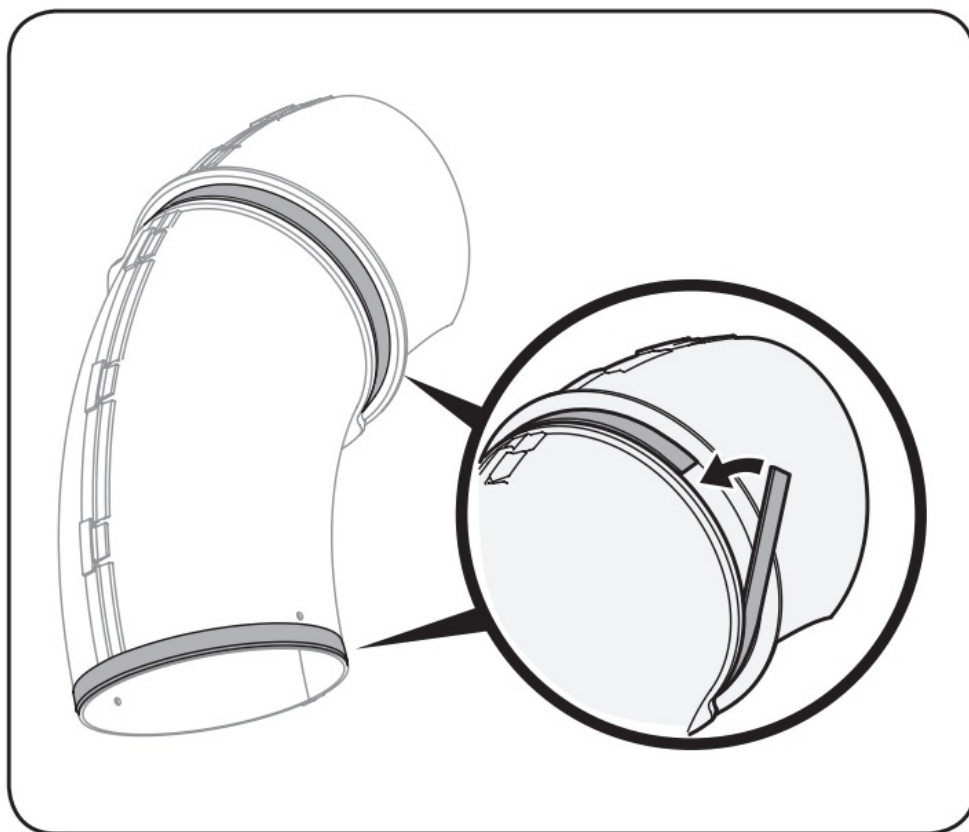

Figure 4-14
1. Peel the backing off of one of the narrow self-adhesive foam strips that has been included with your grass collector. Apply it to the upper chute, flush against the flange as shown in Figure 4-14.
2. Peel the backing off of the other narrow self-adhesive foam strip and apply it to the bottom edge of the upper chute tube, flush against the edge as shown in Figure 4-14.